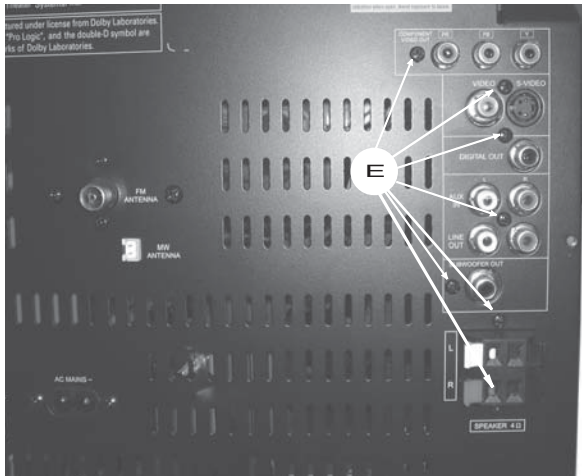

Figure 8
- 1) Release 7 screws 'E' to free the Main board from the back panel assembly as shown in Figure 8.